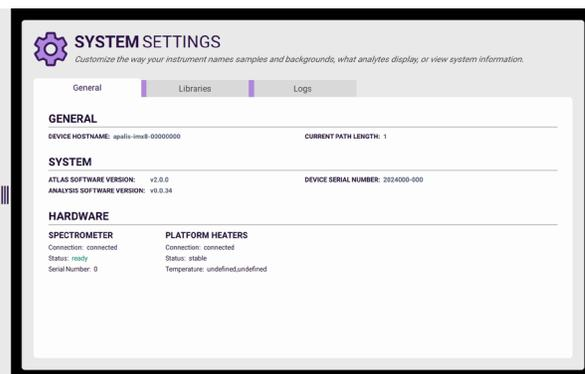

Figure 23. General information for the system
17. Under the “General” tab, the user will find necessary information about the system such as (Fig. 23):